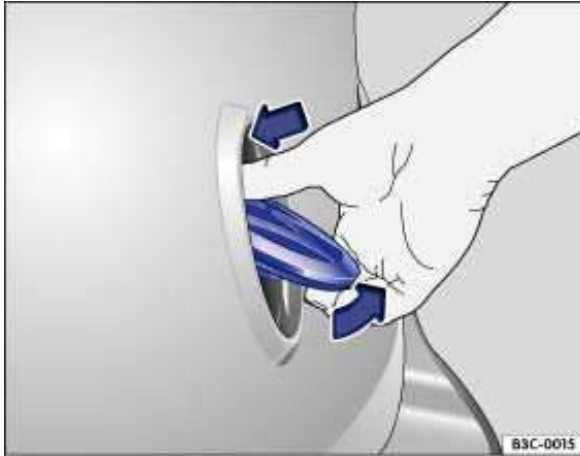

Fig. 25 Opening luggage compartment lid from the outside.
- Using your thumb, press the top of the Volkswagen emblem ⇒ fig. 25 (arrow) and move the top of the emblem down. The luggage compartment lid opens automatically.